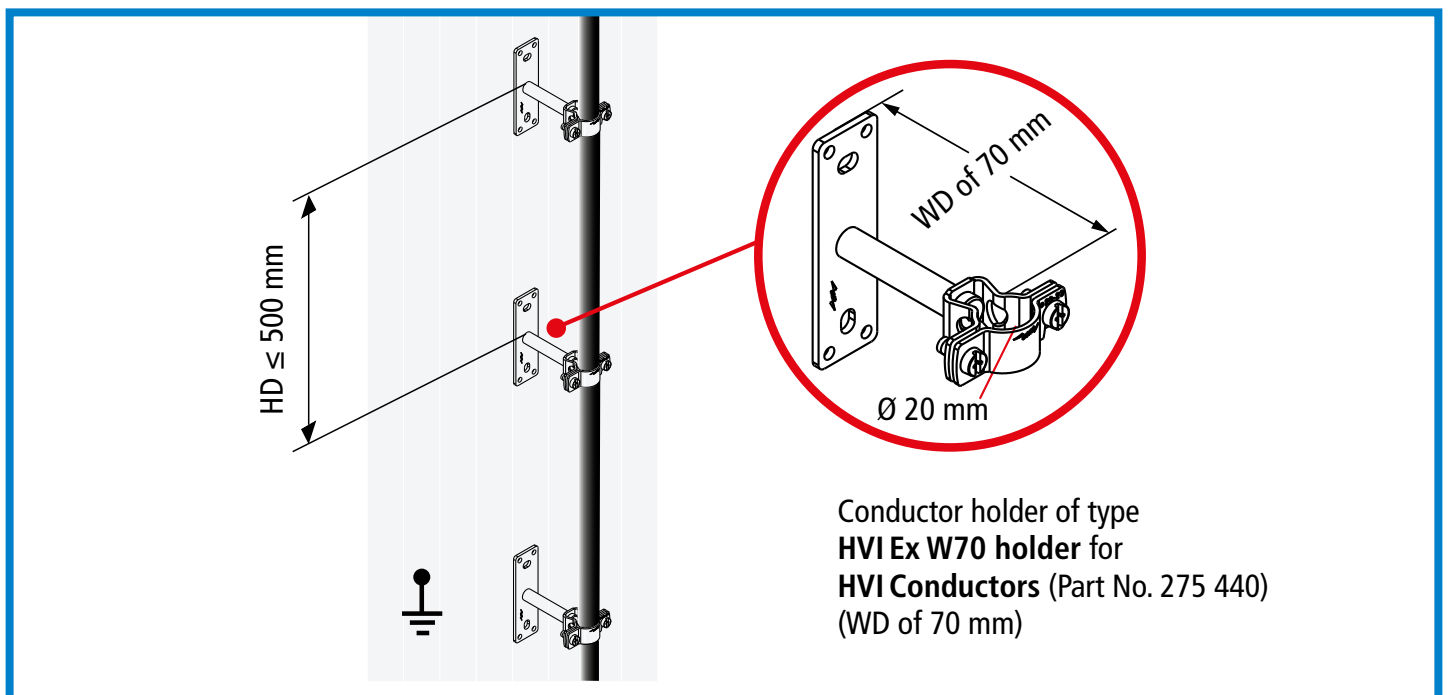

Figure 1 Installation in parallel to an earthed metal façade: holder distance of 500 mm; wall distance of 70 mm
If metal conductor holders of type **HVI Ex W70 holder** with a wall distance (WD) of 70 mm (Part No. 275 440) and a maximum holder distance (HD) (installation distance) ≤ 500 mm (see Fig. 1) are used, discharges can be reliably prevented.